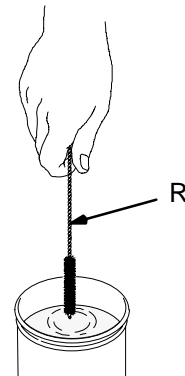

Fig. 18
5. Soak air cap, detent plate and fluid nozzle in solvent. At a minimum, clean air cap and fluid nozzle daily. Use solvent and brush (R), provided. See Fig. 18. Some applications require more frequent cleaning. Keep all air cap holes clean.